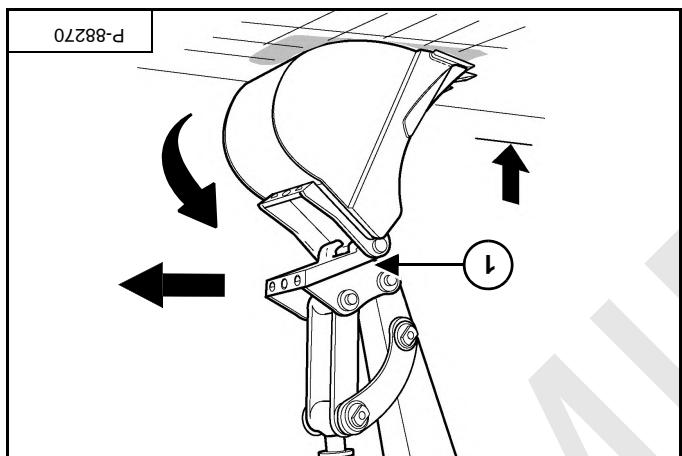

Figure 141
Move the arm out and raise the boom until the coupler is clear of the attachment mounting frame [Figure 141].
Retract the bucket cylinder to rotate the coupler (item 1) [Figure 141] out of the attachment mounting frame.